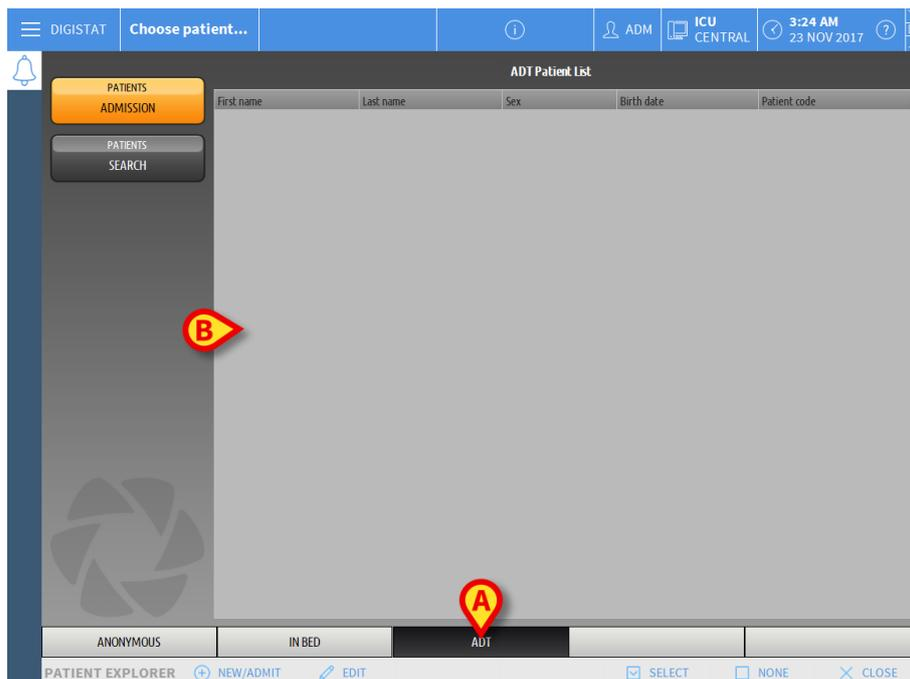

Fig 101
- Click the ADT button on the command bar (Fig 101 A)